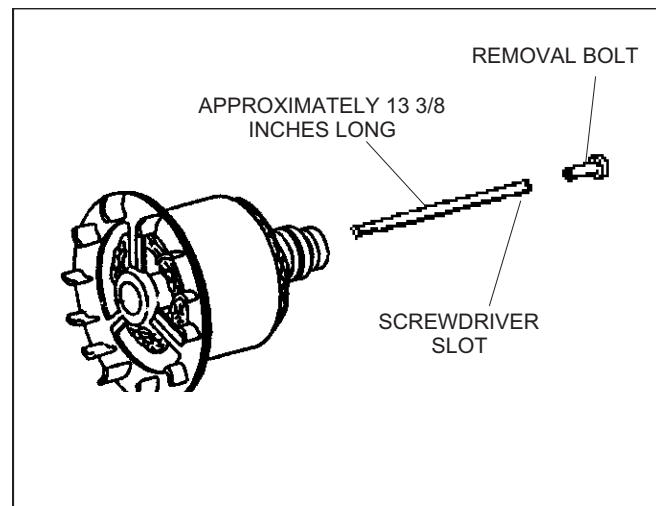

FIGURE 7-7 ROTOR REMOVAL TOOL
2. Thread in a rotor removal rod (Figure 7-7) and turn it with a screwdriver until it bottoms in crankshaft. Thread in and tighten a 9/16-12 x 1-3/4 inch bolt against the rod until the rotor breaks loose from the crankshaft. A tap with a lead hammer on the rotor assy. May be required. Be careful not to hit the windings.